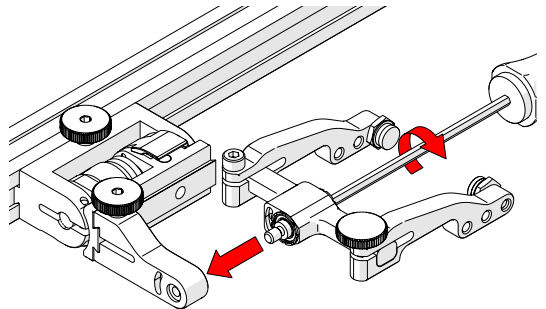

Fig. 63 - Install yoke to swing arm
6. Using the 3 mm hex driver, screw the yoke pivot screw into the opposite side of the probe holder swing arm (Fig. 63). Ensure the yoke is level to avoid issues with the plunger/set screw.